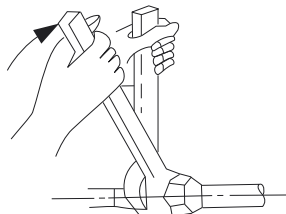

Fig. 18 – Tighten Flare Nut
6. Tighten the flare nut to proper torque value (see Table 7) using a torque wrench and backup wrench (see Fig. 18).
4. Connect refrigerant piping and drain line outside of indoor unit. Refer to Fig. 18 for proper installation of the flare connections. Complete pipe insulation at flare connection then fasten piping and wiring to the wall as required. Completely seal the hole in the wall.